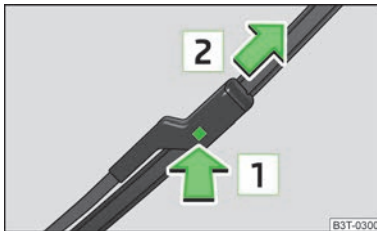

Fig. 48
- Press the locking button  » Fig. 48 to unlock the wiper blade and pull off in the direction of the arrow .